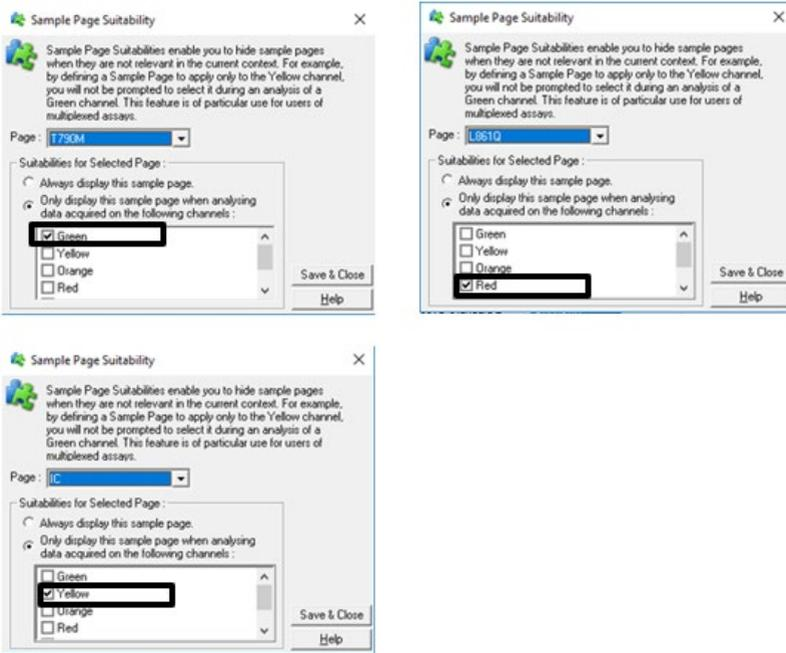

Figure 32. Selecting color channels.
21. To analyze the samples, click **Analysis**. (Figure 32).